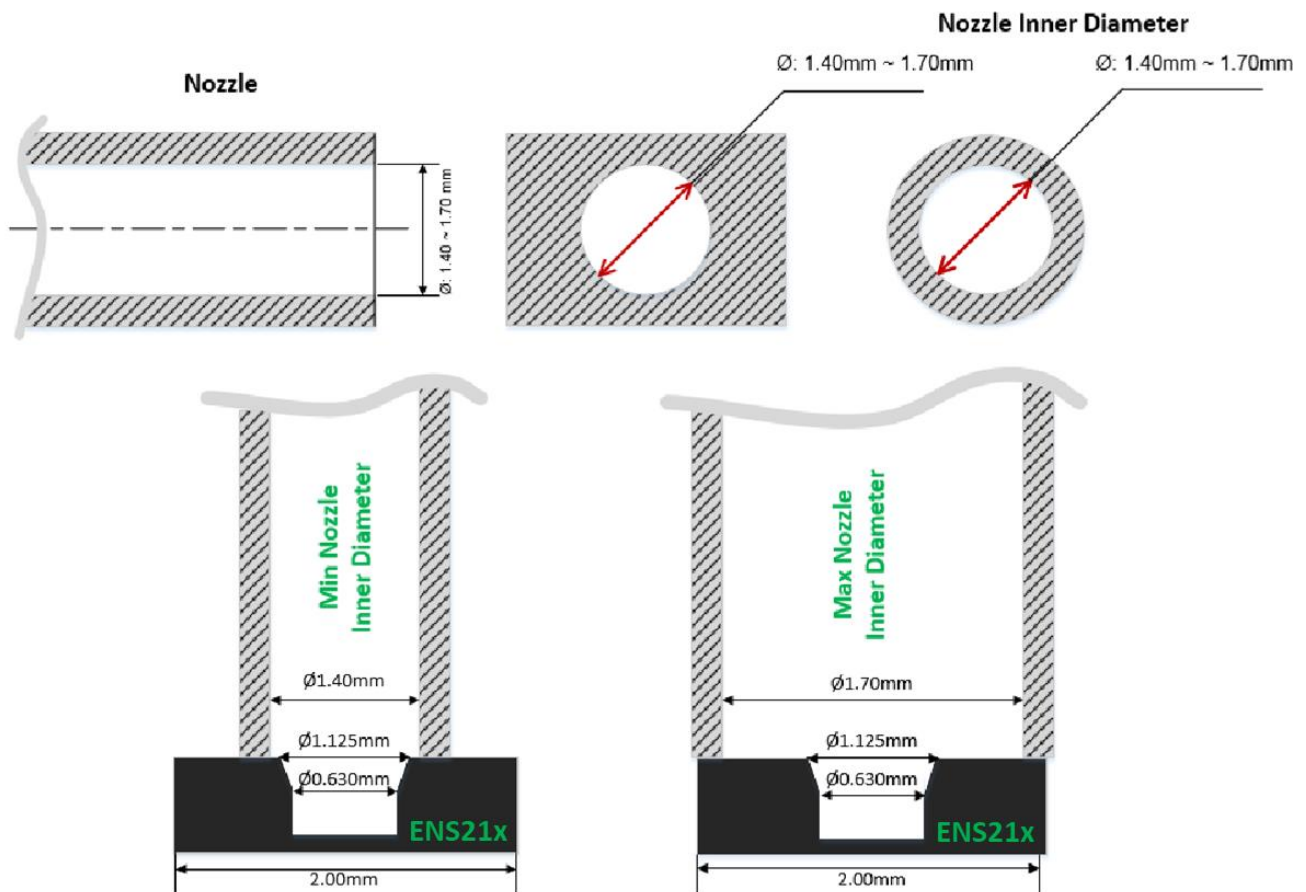

Figure 7: Nozzle Illustration with Inner Diameter from 1.40mm to 1.70mm
Due to the cavity with 1.125 ± 0.050 mm diameter on the top of ENS21x(A), when conduct SMT picking-up and placement of the sensor to a PCB board, it is recommended to use a nozzle with an inner diameter from 1.40mm to 1.70mm (see figure 7) to ensure that every placement of the ENS21x(A) is successful.